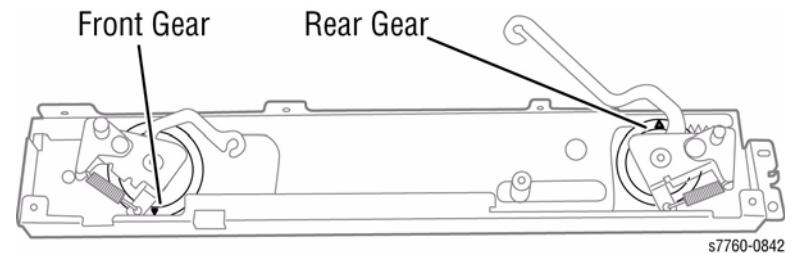

Figure 6 Front and Rear Gears Aligned
4. Align the triangle marks on the Gears and the Rack by lifting the Gear Assemblies on their mounting posts until they disengage from the Rack and rotating them until the triangle align (Figure 6). Then reseat the Gear fully on its post.